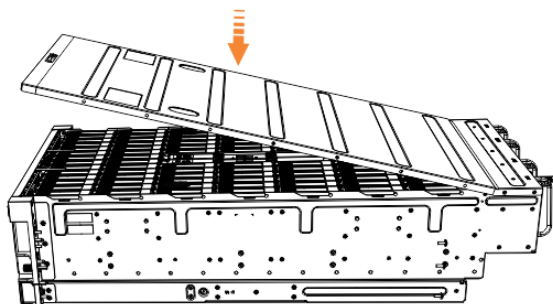

Figure 98. Aligning the top cover
6. Carefully lower the cover and ensure that it is aligned correctly with the back of the enclosure, as shown in Figure 98 on page 160.